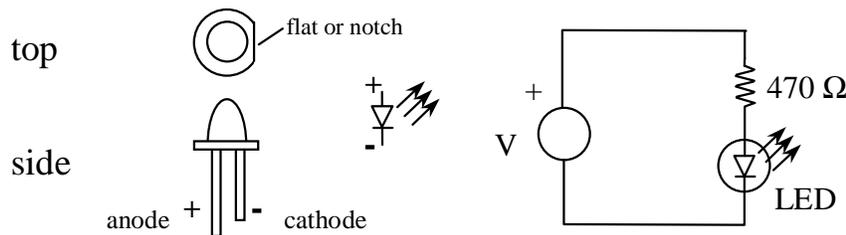

Figure 1 LED circuit
1. To verify the behavior of the LED, construct the circuit shown in Figure 1, and vary the supply voltage between 1 to 8 volts at 1-volt increments. **At each voltage, measure the voltage across the LED and the 470 Ω resistor and enter the values into the following table. The LED current can be calculated using Ohm’s law.**